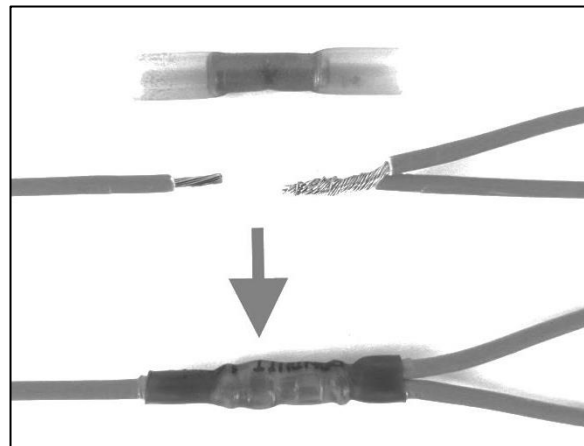

Figure 12
17. Connect wire 35 of the existing L17 light with the wire 35 of the new L15 light. Splice the wires as shown in the Figure 12.
18. Connect wire 86ARtn of the existing L17 light with the wire 86ARtn of the new L15 light. Splice the wires as shown in the Figure 12.